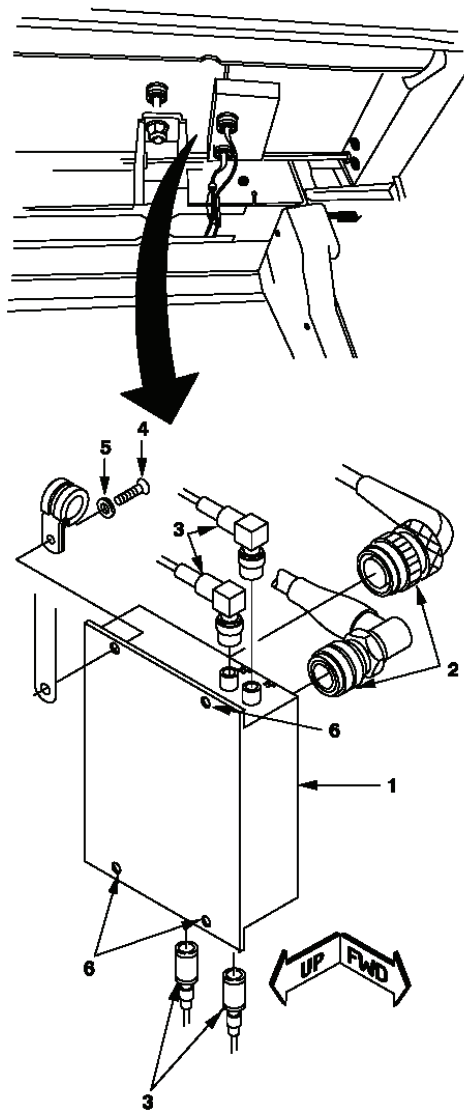

Figure 12
(1) Open forward overhead circuit breaker panel.
(2) Remove wires from cargo release switch and cap wires.
(3) Using black paint or equivalent, cover cargo hook switch label on outside of circuit breaker panel.
I. Remove FM Comparator. (See Figure 12.) (CDS2 aircraft)
- (1) Gain access to comparator (1) on inside roof of helicopter.
- (2) Disconnect two electrical connectors (2) and four coax connectors (3) from comparator (1).
- (3) While supporting comparator (1), remove one screw (4) and washer (5).
- (4) Loosen three captive screws (not shown) (6) and remove comparator (1) from helicopter.
- (5) If ARC201 radio is installed, remove stand-off coupler 2304A3.
(6) Replace connector (2304Z2P5) on cable (2ARC186-103A(7)) with new connector (part number M39012/17-0502, NSN 5935-01-046-2037).
(7) Remaining coax cables will be removed from helicopter during removal of FM Antenna Coupler in step m.
- (8) Retain and secure electrical connectors.